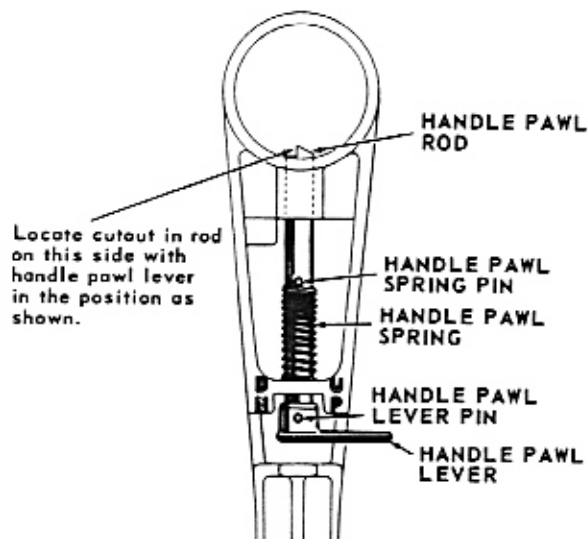

FIGURE 4-7. LEVER AND ROD ASSEMBLY
a. If oil seal (45), bearing (46), bearing (47) or pins (48) were removed, press these items into housing (49).
b. If pin (43) was removed, press pin in shaft (44) until 1/8 inch of the pin protrudes from the top of shaft. Place washer (42) and "o" ring (41) on shaft and insert shaft in housing (49). Secure lever (40) to shaft with pin (39).
c. Insert load sheave (38) in housing (49) and install pin (37) in load sheave. Install washer (34) and ring (33) on load sheave. Attach shedder (36) to housing with two screws (35) and lockwashers (13).
d. Place load pawl (18) on shaft (44) so that the long end of shaft pin (43) is located between pins. This allows load pawl to be moved out of engagement with the ratchet for free chaining. Install spring (24) and test the action of load pawl by turning lever (40).
e. If bearing (21) was removed, press bearing into ratchet (20) until bearing is flush with side of ratchet that fits against rear brake disc (22). Assure that the ratchet (20), thrust bearing (23), brake discs (19 and 22) and area of hub (25) that contacts brake disc are free of oil or other contamination. Install thrust bearing, rear brake disc, ratchet and front brake disc on load sheave (38) while taking care not to get oil, grease or fingerprints on friction surfaces.
f. If oil seal (15) was removed, press seal in cover (16). Place gasket (14) on housing (49). Place cover on housing and attach cover with four screws (12).
g. Insert handle pawl rod (9) into handle (10). Place spring (8) on rod and press pin (5) in rod. Attach lever (7) to rod with pin (6). See figure 4-7 for correct orientation of rod and lever. Replace plug (4) in handle.
h. Pull down on lever (7) and slide handle (10) into place on load limiting device (25 thru 31) and release lever.
g. If oil seal (15) was removed, press seal in cover (16). Place gasket (14) on housing (56). Place cover on housing and attach cover with four screws (12).
h. Insert handle pawl rod (9) into handle (10). Place spring (8) on rod and press pin (5) in rod. Attach lever (7) to rod with pin (6). See figure 4-7 for correct orientation of rod and lever. Replace plug (4) in handle.
i. Pull down on lever (7) and slide handle (10) into place on load limiting device (25 thru 31) and release lever.